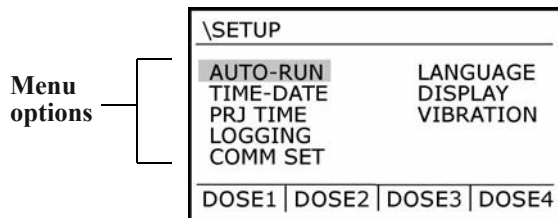

Figure 4–1: *DLX* model Setup display
2. Press ⏩. The Setup display appears (Figure 4–1).